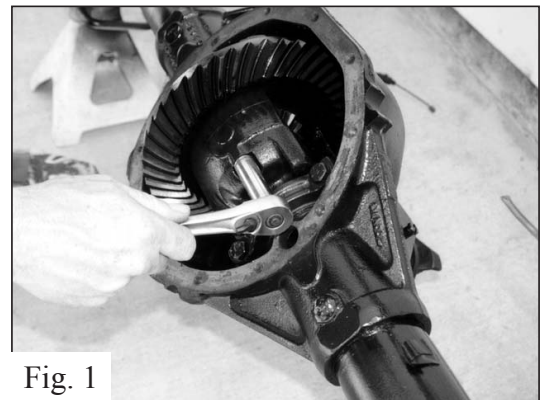

Fig. 1
4. Rotate the gear assembly towards the rear cavity area of the housing to allow enough space to remove the securing bolt (figure 1).